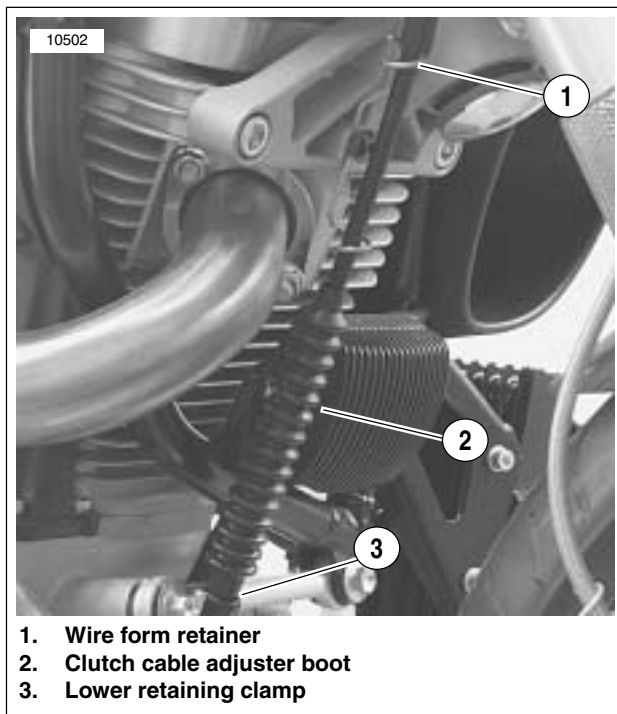

Figure 3-20. Clutch Cable Retaining Clamps and Adjuster Boot
21. See Figure 3-20. Disconnect clutch cable from handlebars.